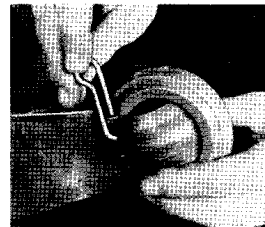

FIG. 9a
Interchanging Ball Ends (Figs. 9a and 9b)
1. Pull the spring clip (Fig. 9a) upwards, as shown.